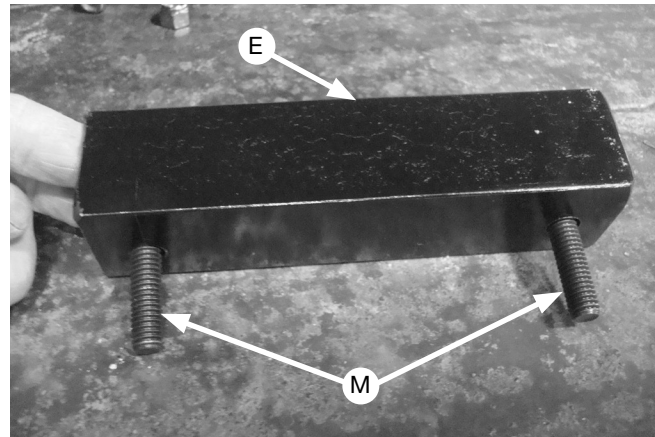

Fig. 11
4. Insert the 3/8" hex flange bolts (M) into the upper braces (E) (Fig. 11).